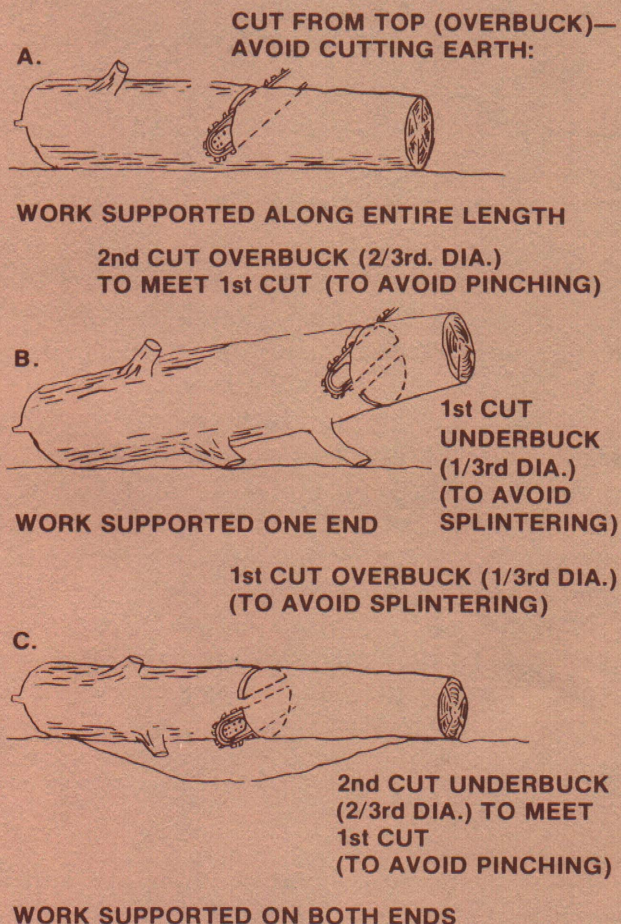

Figure 11—Use these bucking procedures for safety.
it over and make the final cuts. This prevents pinching the guide bar and chain (Figure 11-A).
**If the log is supported on one end,** make the first cut (underbuck) one-third the diameter, then complete from topside by overbucking the upper two-thirds to meet the underbuck (Figure 11-B).
**When the log is supported from both ends,** cut one-third the diameter from the top (overbuck), then complete the cut by cutting upward from the underside (underbuck) to meet the first cut (Figure 11-C).